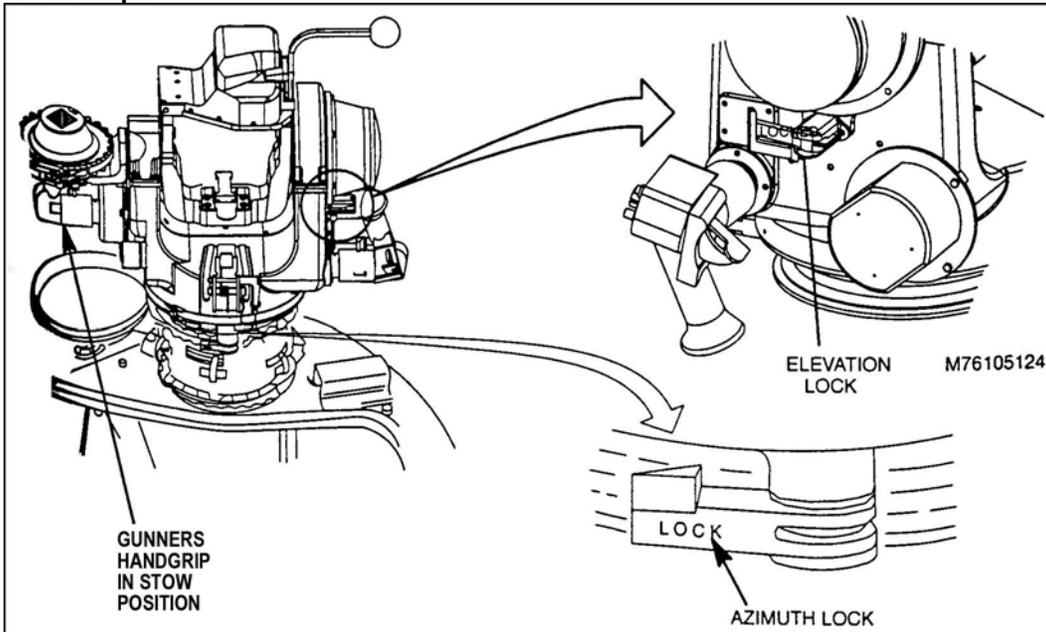

Figure 7. Locking the TU azimuth lock.
- h. Rotate gunner's handgrips to the operate position (Figures 7 and 8).